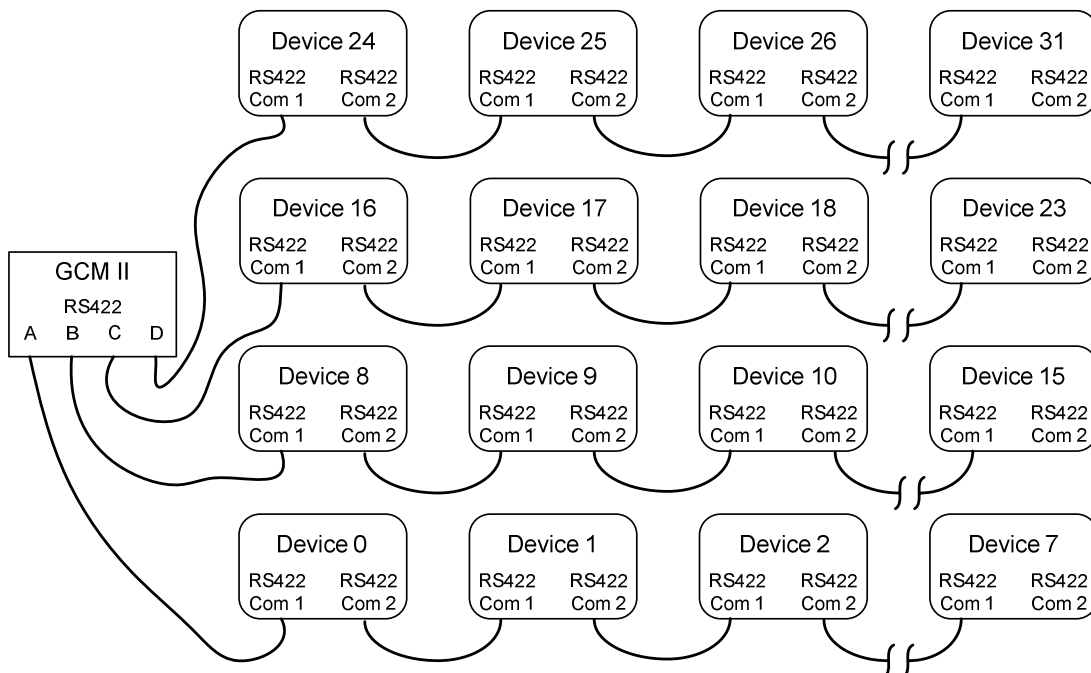

Figure 1 – Maximum Devices
When used in conjunction with other INTREPID Series II devices, a maximum of thirty two (32) devices can be connected to the GCM II as shown in Figure 1. Eight (8) to each port or thirty two (32) on any one (1) port or any combination as long as it does not exceed thirty two (32) devices. With eight (8) devices connected to a port, the alarm delivery time will be one (1) second. The system can also be configured as Fault Tolerant.